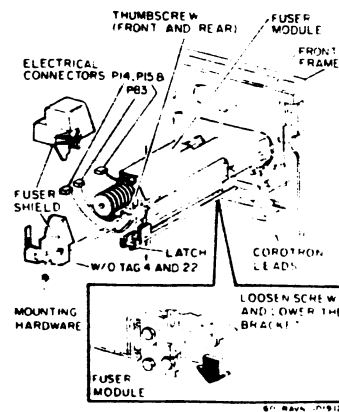

Figure 2. Removing the Fuser Module
5. PULL FUSER MODULE ON SLIDE ASSEMBLY OUT OF PRINTER (FIGURE 2)